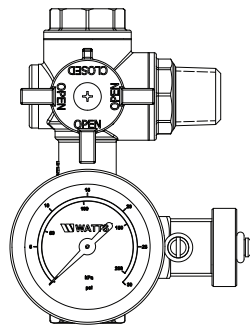

Fig. 6
1. Push in and turn RBFF handle 90° clockwise and lock into the system-port-closed position as shown in Figure 6.